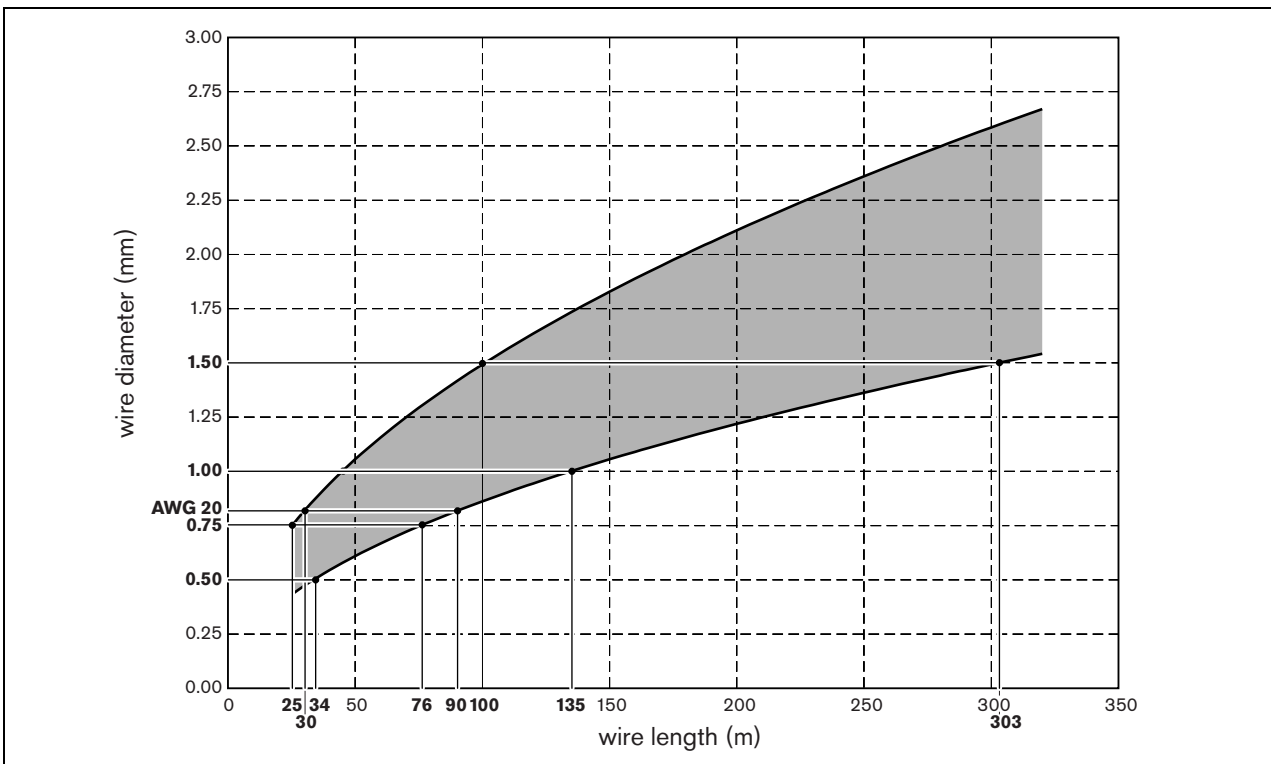

figure 2.9: Wire diameter vs. the wire length (copper wires)
- 2 Use figure 2.9 to get the allowed wire diameter.
For example, in a rectangular room with a width (W) of 10 m and a length (L) of 30 m, the wire length is 80 m. According to figure 2.9, the wire diameter must be between 0.77 and 1.34 mm. Thus, you can use AWG 20 wire or a wire with a standard diameter of 1.00 mm.